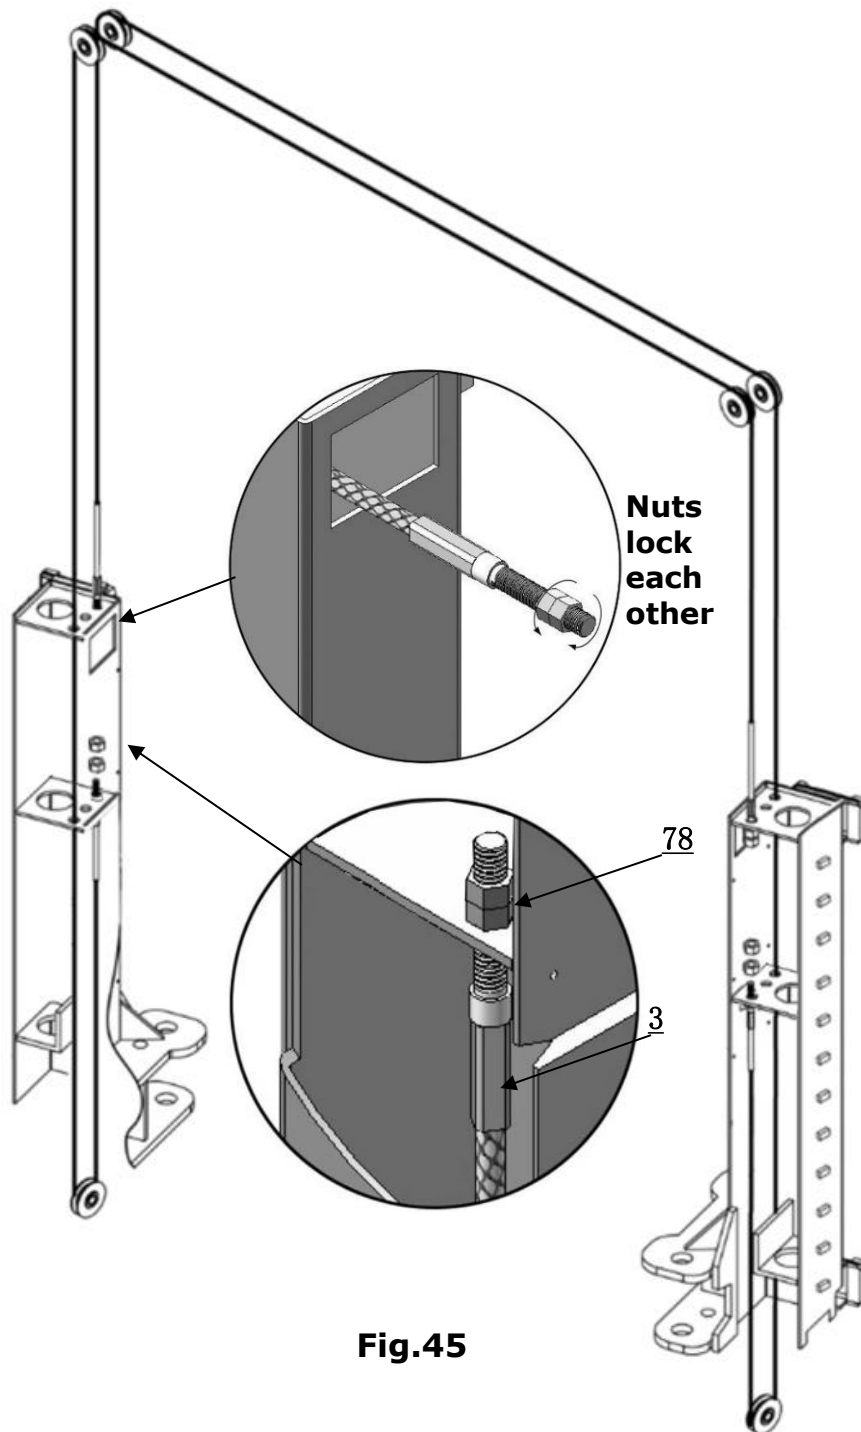

Fig.45
2. 2. OHX-10H: Cable connection for high setting (Fig. 45).